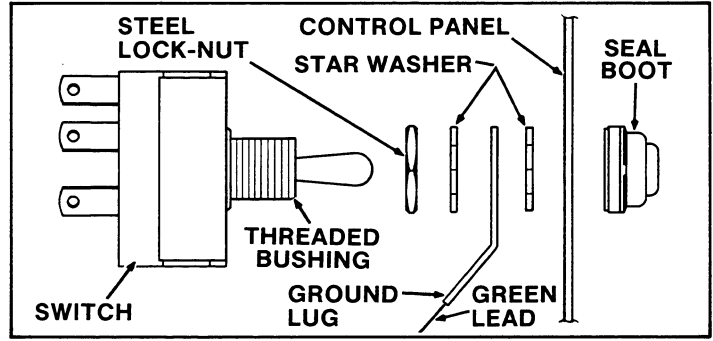

Figure 3—Detail Assembly Diagram for Switch Hardware
10. Thread steel lock-nut all the way onto Switch threaded bushing, then place one star washer on shaft (see Figure 3).